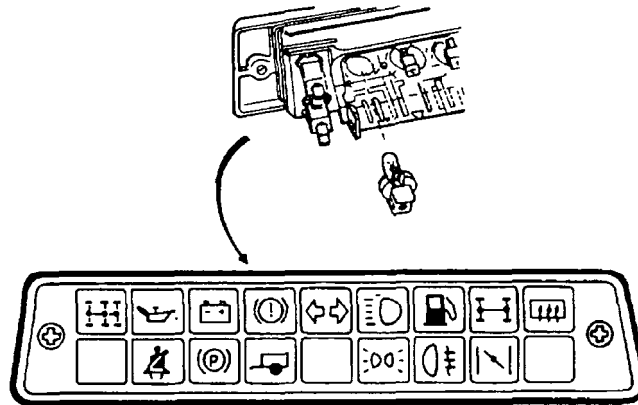

Figure 163 Warning Light Module Removal
- b. Remove the two screws securing the warning light module to the instrument panel (Figure 163).